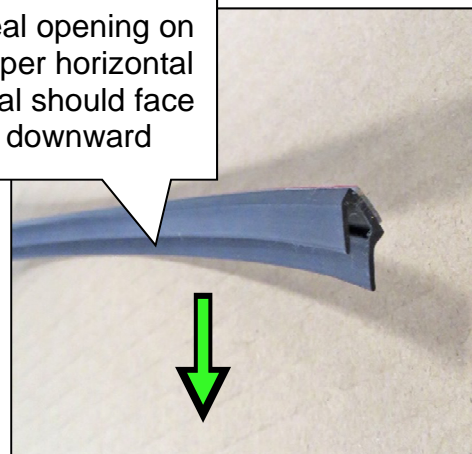

Figure 16
- If replacing the upper horizontal seal, ensure the opening in the seal is facing downward (Figure 16).